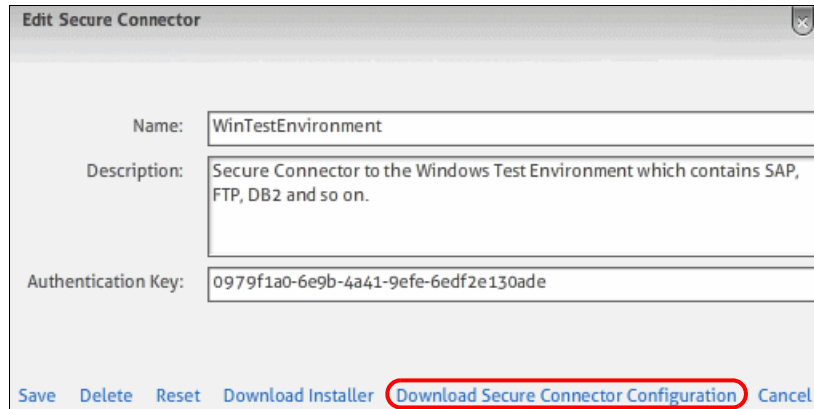

Figure 2-34 WebSphere Cast Iron Live Edit Secure Connector
2. Click **Download Secure Connector Configuration**, as shown in Figure 2-34 on page 64.